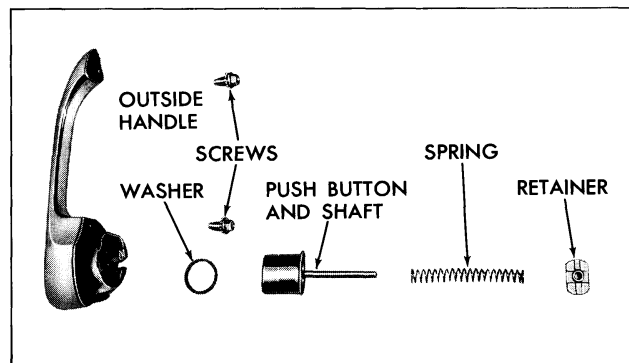

Fig. 3-20 Door Outside Handle
3. To assemble, reverse disassembly procedure (Fig. 3-20).